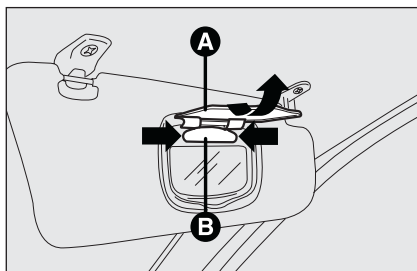

fig. 38
- open the mirror cover **A-fig. 38**;